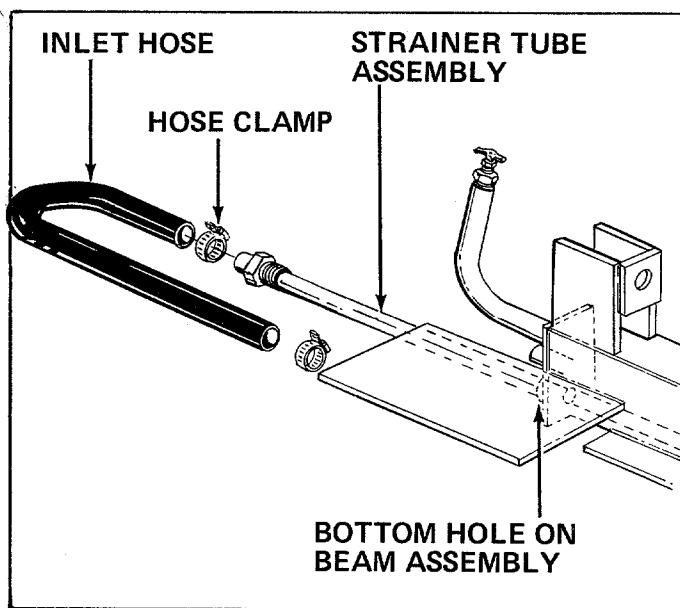

FIGURE 27
2. Pull off inlet hose from strainer tube assembly and catch oil in a suitable container. See figure 27.
- With an adjustable wrench remove the strainer tube assembly. See figure 27.